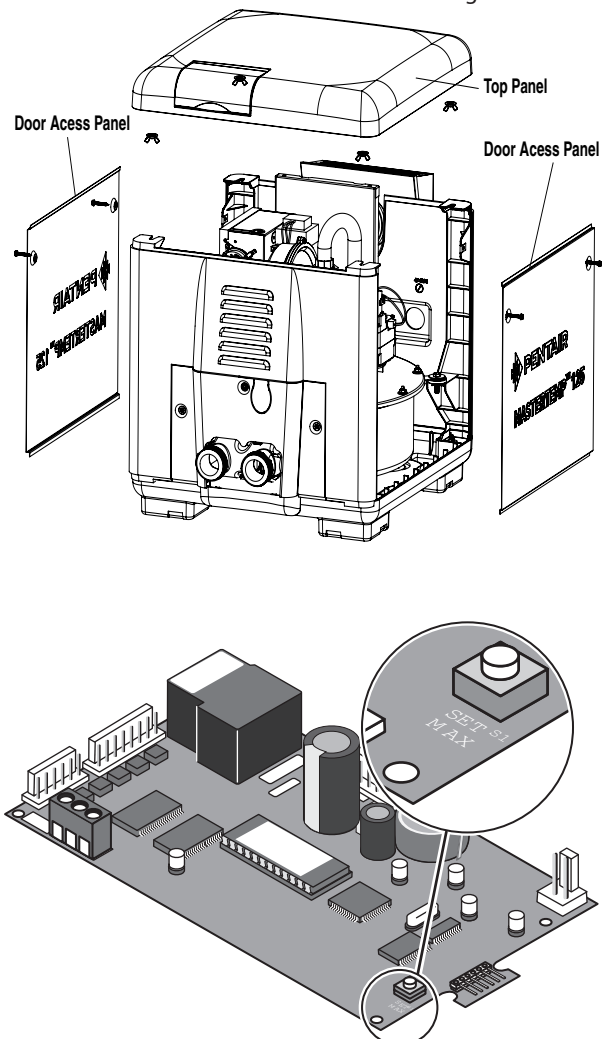

Figure 7.
3. Push the Max. Temp. Set Point button on the back of the control board (see Figure 7).